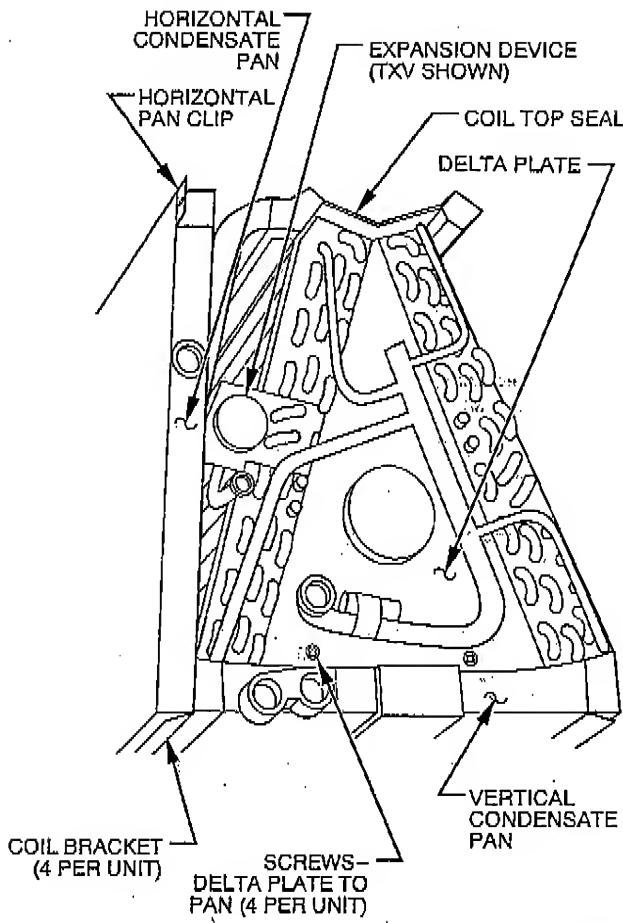

Fig. 14—A-Coil Component Location
- Upflow or Horizontal Applications Only**—Remove horizontal condensate drain pan from coil/condensate pan assembly. (See Fig. 14.)
- Remove 4 coil brackets. (See Fig. 14.)
- Remove screws at delta plates and remove coil from vertical condensate drain pan. (See Fig. 14.)
- Horizontal Applications Only**—Remove coil top seal (attached with 4 screws) and J-shaped tube from original coil and install it in same position on new coil. (See Fig. 14.)
- Place coil assembly in plastic condensate pan and secure using 4 screws through delta plate. (See Fig. 14.)
- Horizontal and Upflow Applications Only**—Attach 4 coil brackets to coil/pan assembly. (See Fig. 14.)
- Horizontal Applications Only**—Reinstall horizontal pan clip. Secure with 1 screw. (See Fig. 14.)